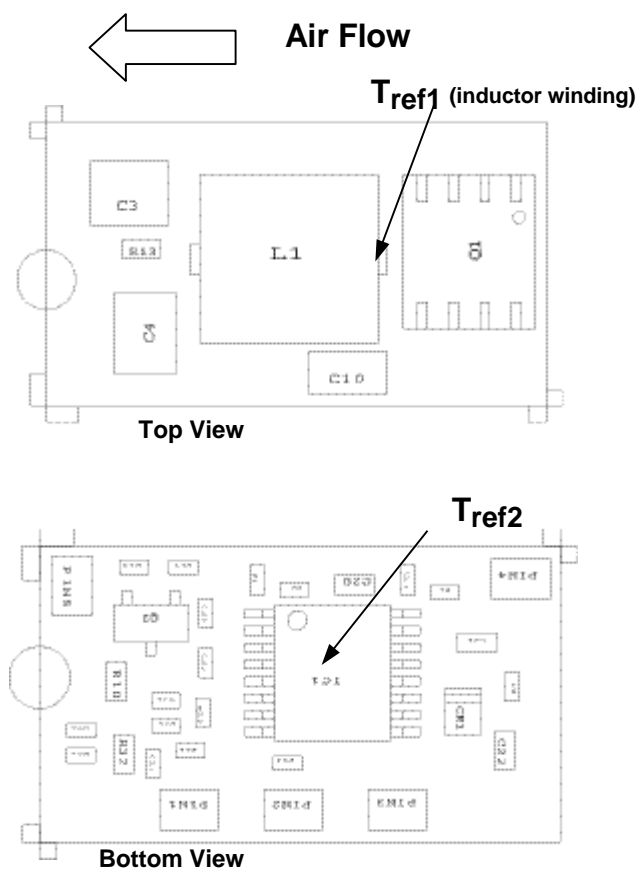
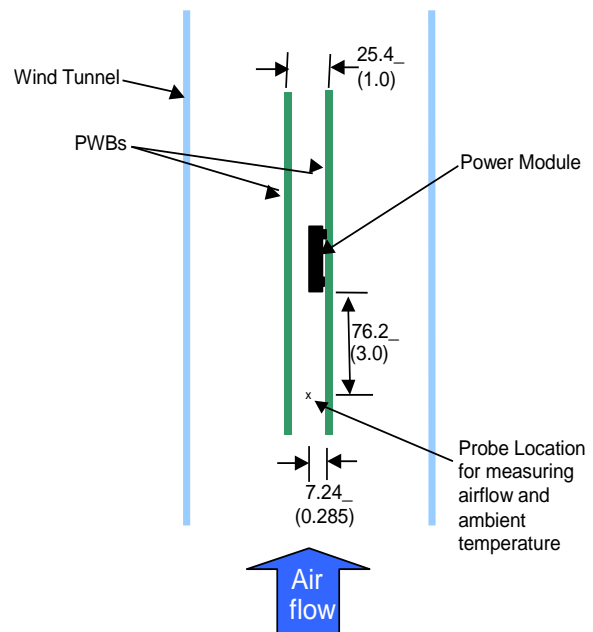

Figure 32. Tref Temperature measurement location.
Figure 33. Thermal Test Set-up.
Considerations include ambient temperature, airflow, module power dissipation, and the need for increased reliability. A reduction in the operating temperature of the module will result in an increase in reliability. The thermal data presented here is based on physical measurements taken in a wind tunnel. The test set-up is shown in Figure 33. Note that the airflow is parallel to the long axis of the module as shown in figure 32. The derating data applies to airflow in either direction of the module's long axis.
The thermal reference points, T_{ref1} and T_{ref2} used in the specifications of thermal derating curves are shown in Figure 32. For reliable operation these temperatures should not exceed 125°C.